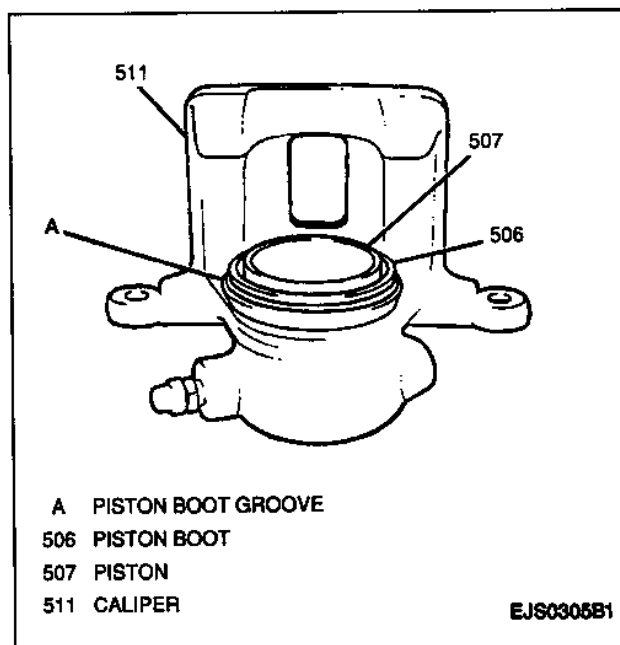

Figure 17—Piston Boot Groove
6. Fit piston boot onto caliper groove (Figure 17).